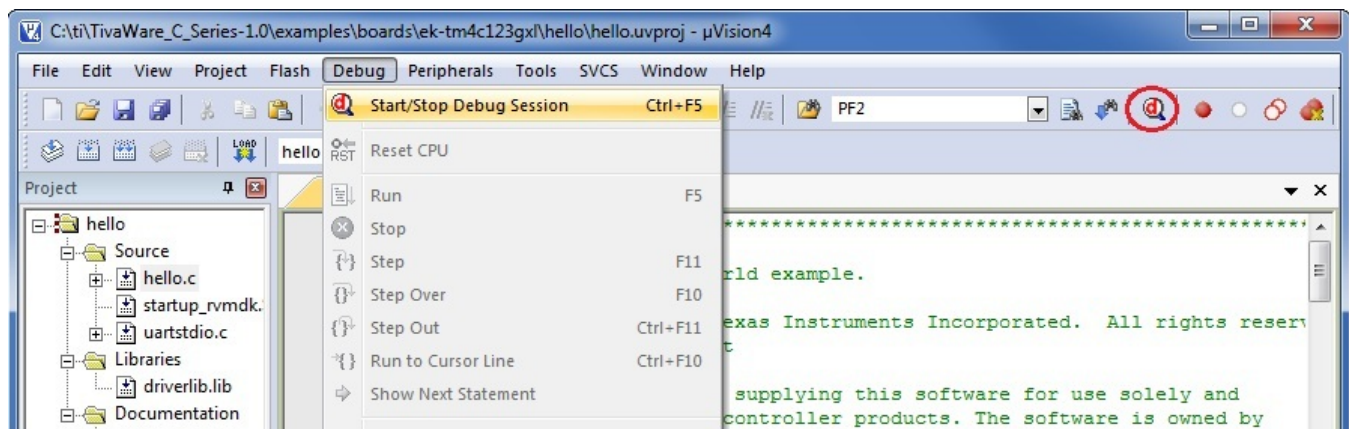

Figure 8.
1. Select Start/Stop Debug Session from the Debug menu or click the Debug button (icon) (see Figure 8).